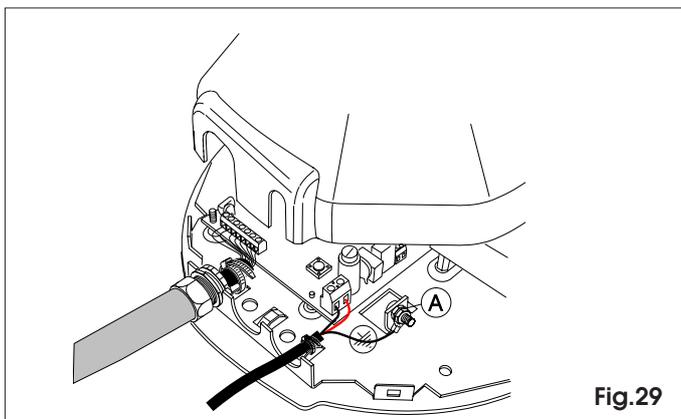

Fig.29
9.3 Position the earth eyelet on the screw, add a washer and tighten with the nut (fig. 29 ref.A).
9.4 If you are using tube sleeves to secure the cables, make a slot as shown in figure 29. is operating efficiently.